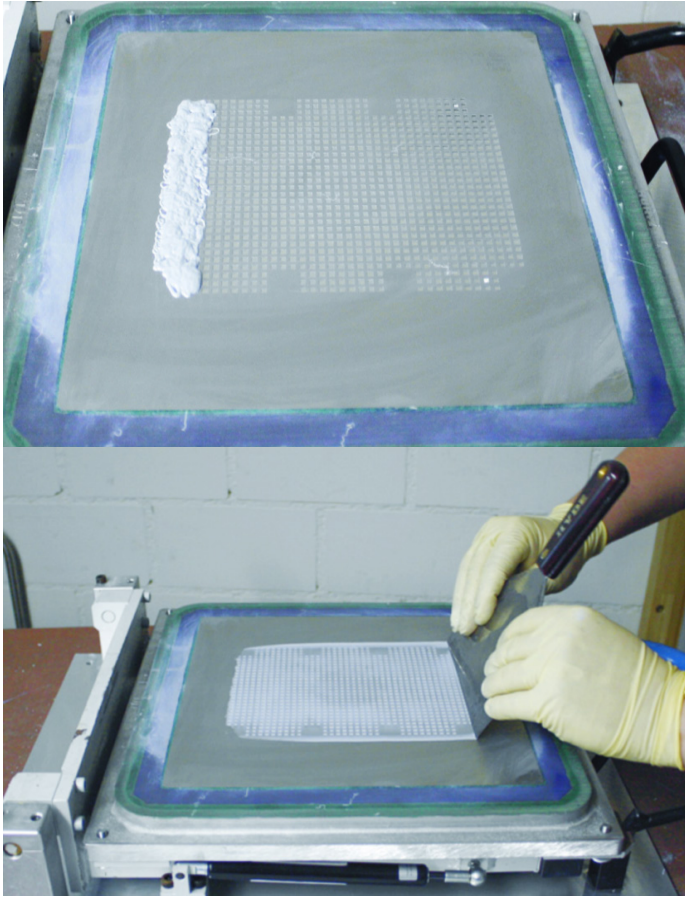

Fig. 7: Applying the paste onto the stencil using a scraper
b) For high viscosity or stickier pastes (e.g. Dow Corning TC-5121) application with a rubber roller is difficult as the paste might stick to the roller. In this case the paste can be applied directly with the scraper (figure 7). The final paste thickness can depend whether the scraper is pushed or pulled.